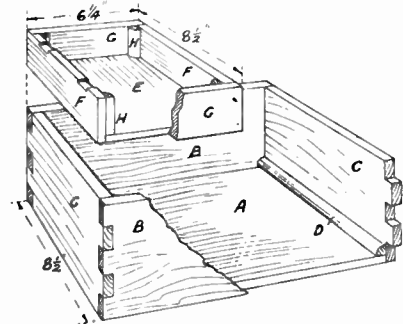

Fig. 2—A cut-away drawing showing construction
The floor fits between the sides and the ends as seen in the sectional diagram Fig. 2. Where a floor fits into a frame as in this case, it is always better to mark out the outline of the floor direct from the frame, which ensures a perfect fit. It would not do to cut the floor first and, having knocked the pin-jointed frame together, expect anything of a good fit.
The box measures $12\frac{1}{2}$ ins. long, $8\frac{1}{2}$ ins. wide and 5 ins. high. It consists of a floor (A) (Fig. 2), two sides (B), and two
The construction of the trays is shown again in Fig. 2 and the sizes of the rails (F) and (G) which are all $1\frac{1}{4}$ ins. wide are given in this diagram, the rails (F) going in between the rails (G) will be 8 ins. long, as all the wood for the trays is $\frac{3}{8}$ in. thick. Here again, the floor (E) goes in between the rails (F) and (G), and is held by the angle fillets (H).